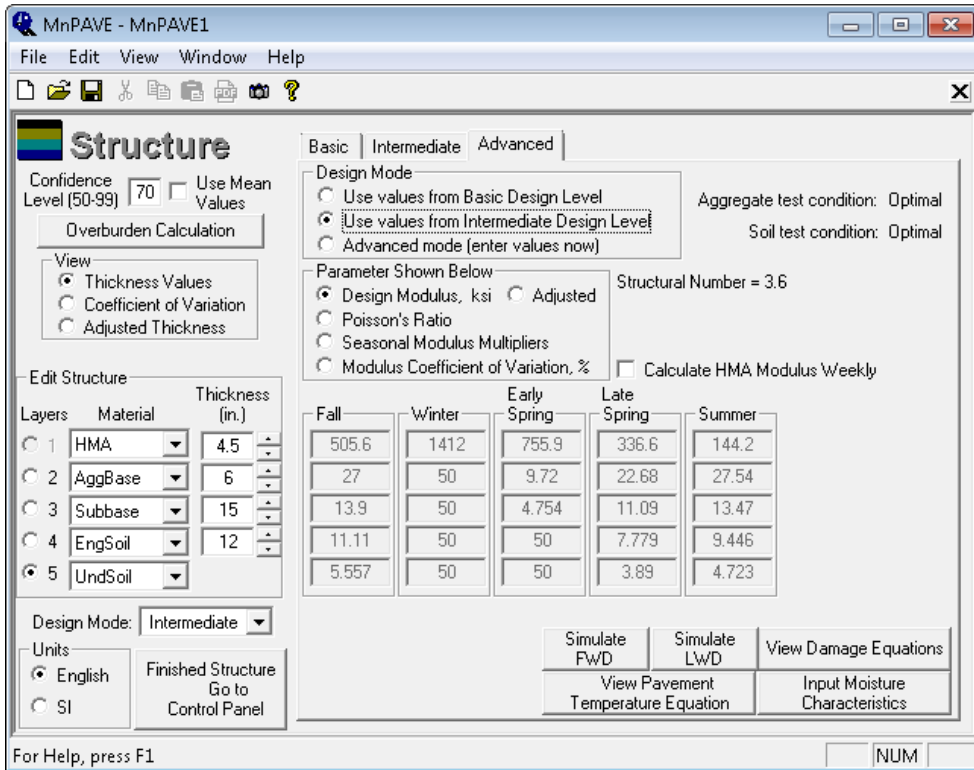

Figure 2 MnPAVE Design (Structure)
- Design the pavement, including the HMA layer. **Research Mode** provides many more options than **Design Mode**. The default values for these additional options should be used. Return to Structure and select the Advanced tab (see Figure 2).